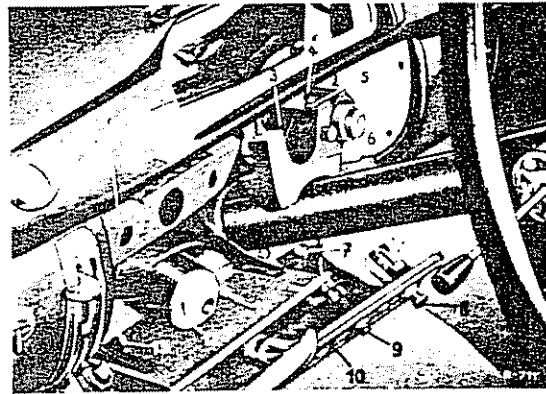

Fig. 46-8/3
9. Working from the aperture of the instrument cluster loosen the two hexagon nuts for the steering column bracket and remove together with washers and crimped washers (see Fig. 46-8/3).
10. Press the steering column slightly down and pull out the steering column bracket together with the lock (6) (Fig. 46-8/3).
11. Unscrew the contact cap (3) from the steering lock and disconnect the cables (see Fig. 46-8/3).